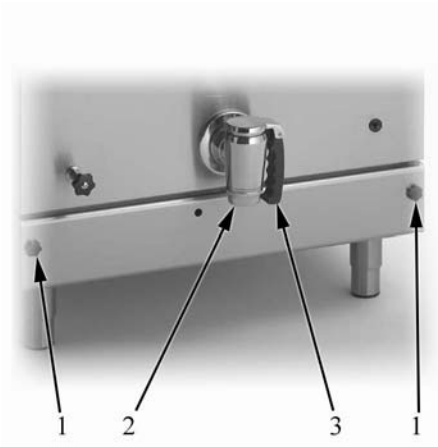

Fig. 4
1. Place a container under the drain valve pos. 1 in Fig. 4 sufficient to hold the food that has been cooked in the tank.
2. Raise the lever pos. 2 in Fig. 4 and turn it to the left until the drain valve opens.